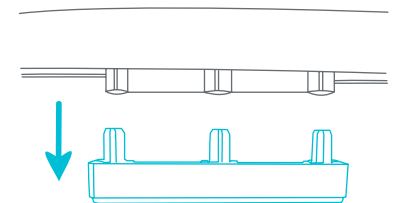

Fig. 13a
- **REMOVAL:** To remove, pull out the stopper (Fig. 13a).